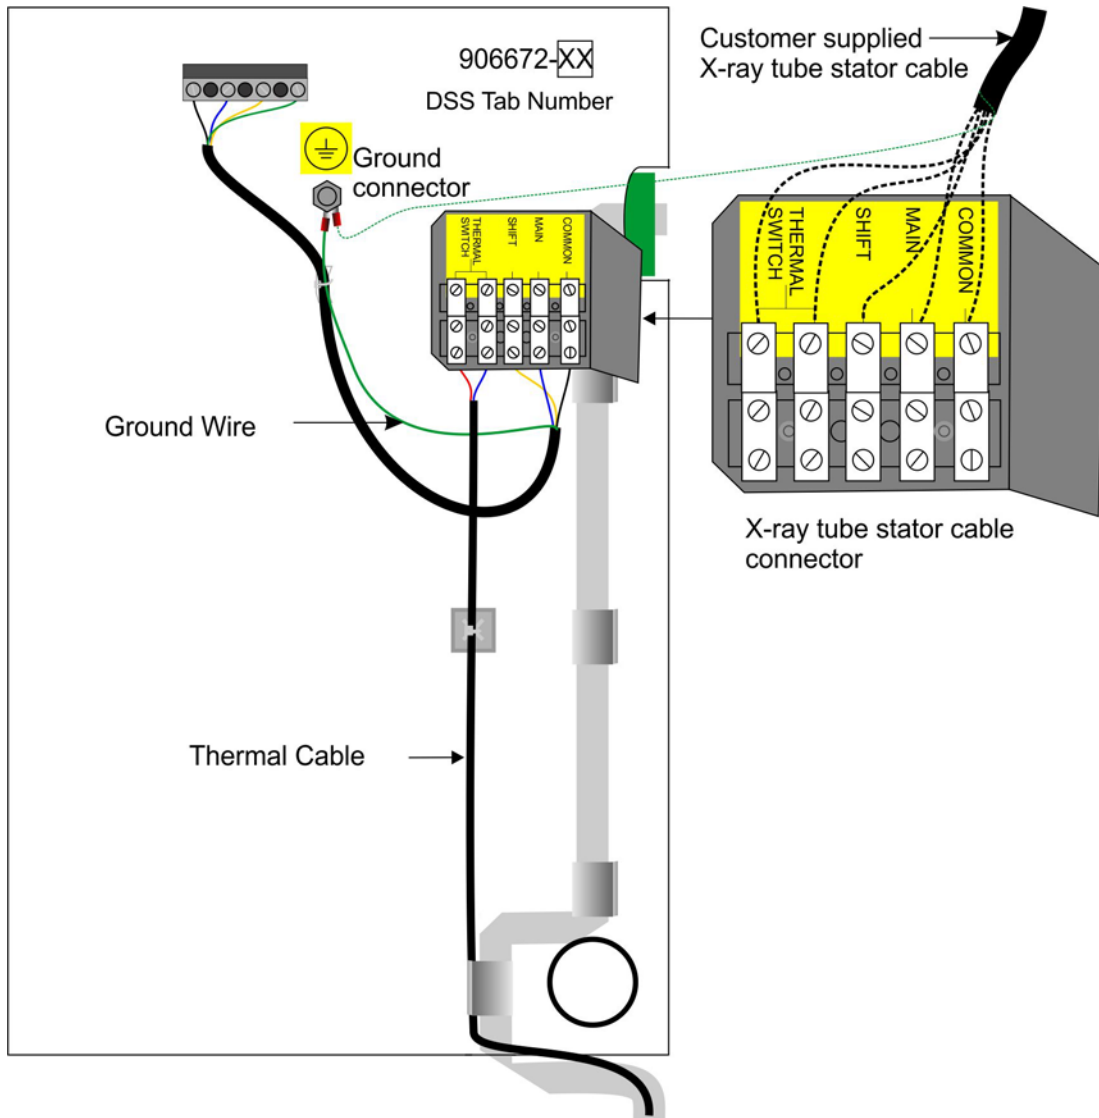

Figure 2-6: the connector of the X-ray stator cable for the dual-speed starter
The connector for connecting the X-ray stator cable for the dual-speed starter is located on the back of the DSS board mounting plate as shown in Figure 2-6.
1. Route the X-ray tube stator cable towards the X-ray stator cable connector on the back of the DSS board mounting plate. Refer to figure 2-6.
2. Connect the shield ground of the stator cable to the ground connector on the mounting plate as shown in Figure 2-6.
3. Connect the X-ray tube stator cable to the X-ray stator cable connector as shown in Figure 2-6.